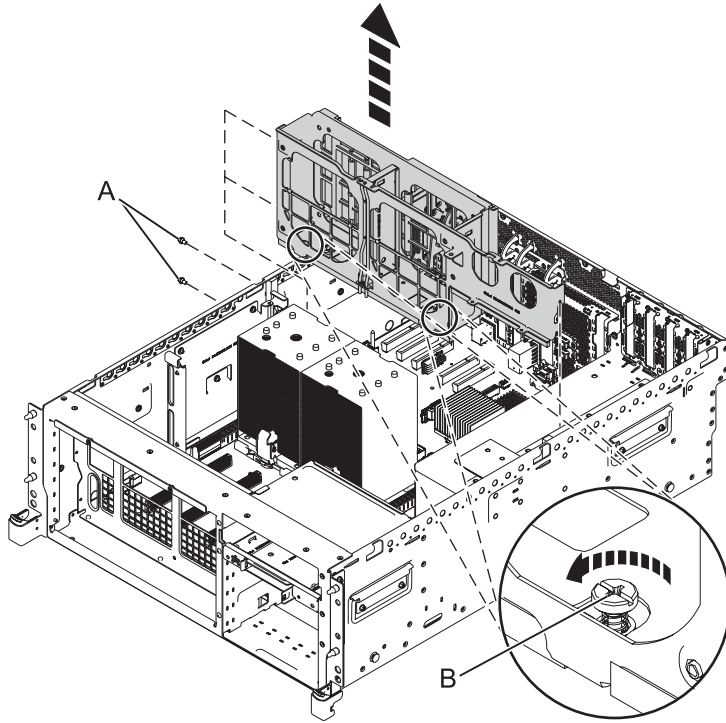

Figure 38. Remove the middle fan cage
- a. Remove the screws **(B)** that secure the fan cage. See Figure 38 on page 63.